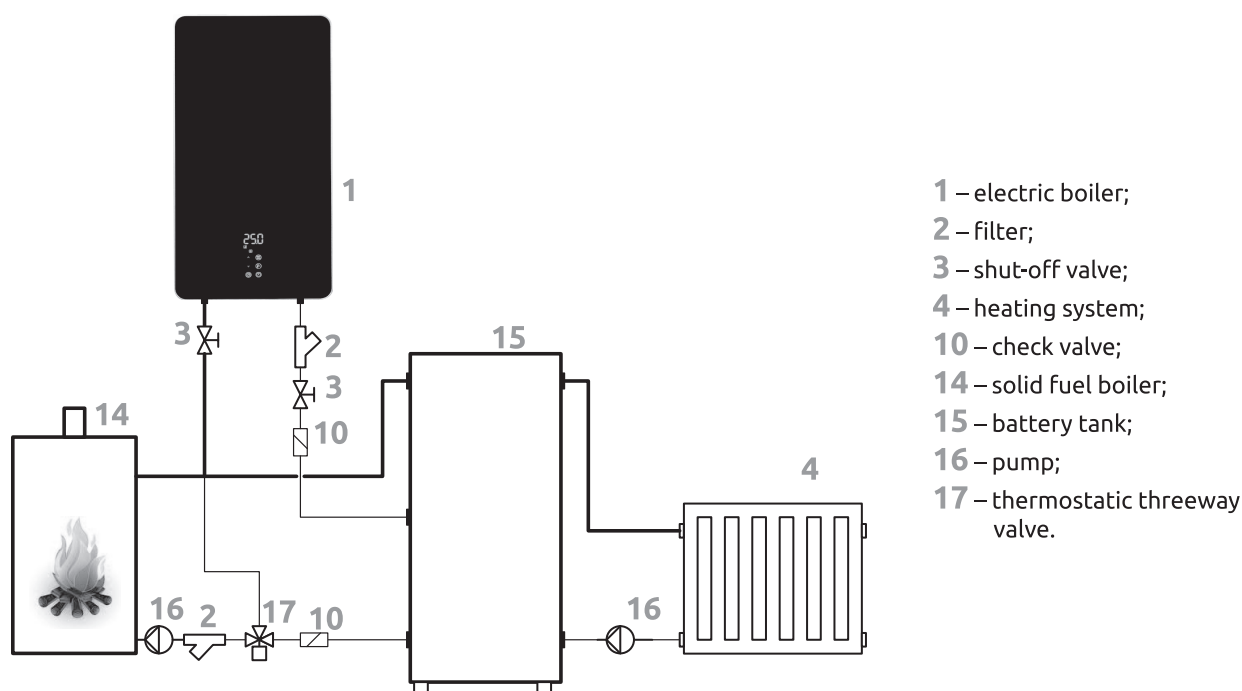

Figure 26 – Wiring diagram of electric and solid fuel boilers with a battery tank.
- by pressing the button  for one second (**Figure 26**).